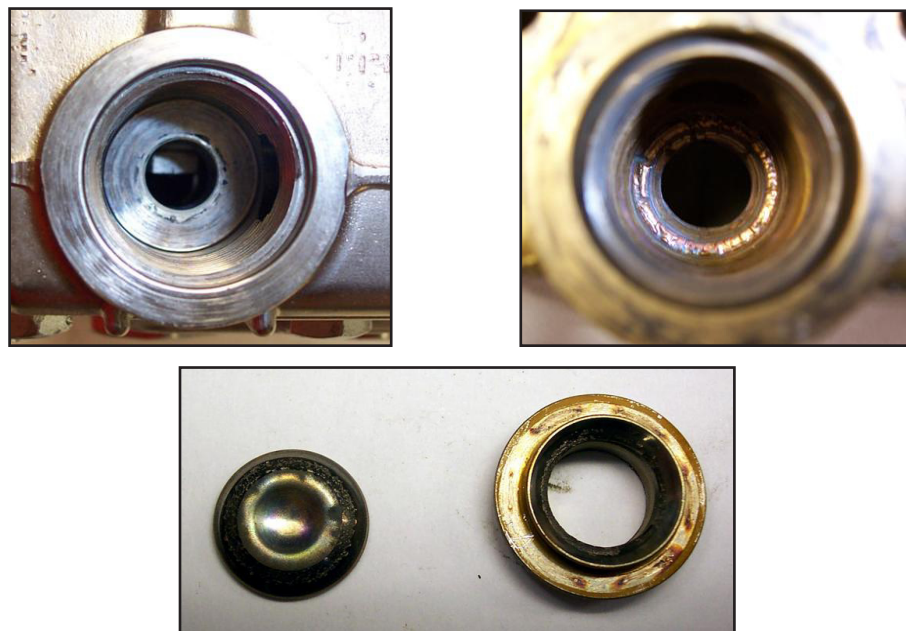

Figure 5-2. Inspect Manifold and Old Valves
5. Inspect the manifold for wear or damage (see Figure 5-2).